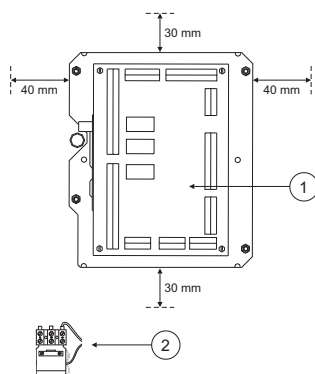

Figure 15: The Non-Enclosed Power Unit
Figure 15 shows the Power Unit not installed in any kind of Enclosure.
- The Power Unit must be mounted in a vertical position, maintaining minimum clearance around the supply, as shown in Figure 15. Furthermore, the Enclosure must be deep enough to provide at least 50 mm of clearance behind the Power Unit once it is fitted.